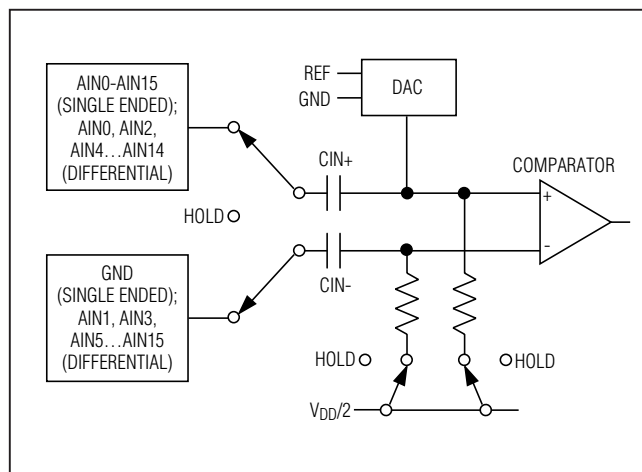

Figure 3. Equivalent Input Circuit
**Note 6:** See Figure 3 (Input Equivalent Circuit) and the *Sampling Error vs. Source Impedance* curve in the *Typical Operating Characteristics* section.
The MAX1027/MAX1029/MAX1031 use a fully differential ADC for all conversions. The analog inputs can be configured for either differential or single-ended conversions by writing to the setup register (see Table 3). Single-ended conversions are internally referenced to GND (Figure 3).
The equivalent circuit of Figure 3 shows the MAX1027/MAX1029/MAX1031s' input architecture. In track mode, a positive input capacitor is connected to AIN0–AIN15 in single-ended mode (and AIN0, AIN2, AIN4...AIN14 in differential mode). A negative input capacitor is connected to GND in single-ended mode (or AIN1, AIN3, AIN5...AIN15 in differential mode). For external track-and-hold timing, use clock mode 01. After the T/H enters hold mode, the difference between the sampled positive and negative input voltages is converted. The time required for the T/H to acquire an input signal is determined by how quickly its input capacitance is charged. If the input signal's source impedance is high, the required acquisition time lengthens. The acquisition time,  $t_{ACQ}$ , is the maximum time needed for a signal to be acquired, plus the power-up time. It is calculated by the following equation: